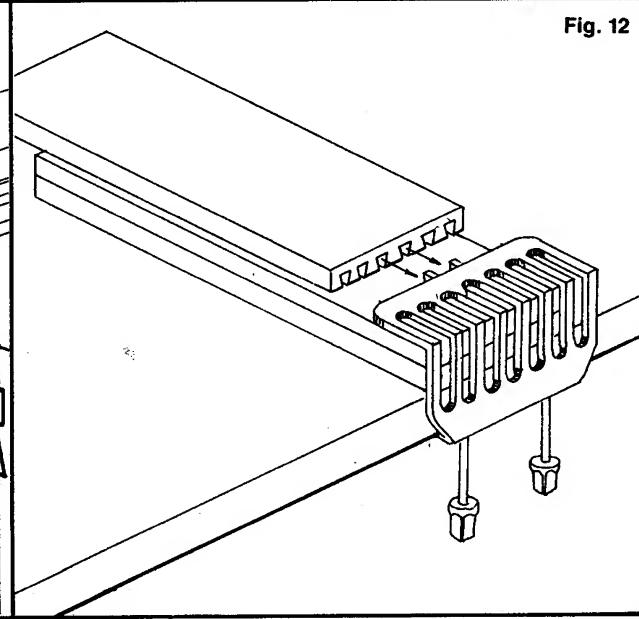

Fig. 12
9. Loosely clamp wood to be cut to scrap wood and work bench. Insert center cuts of first piece into pegs on the back of the template (Fig. 12).